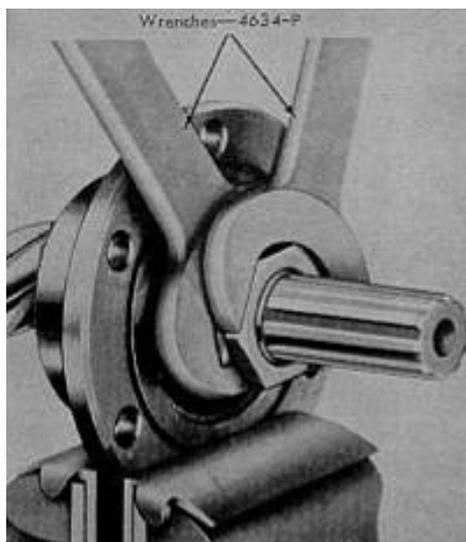
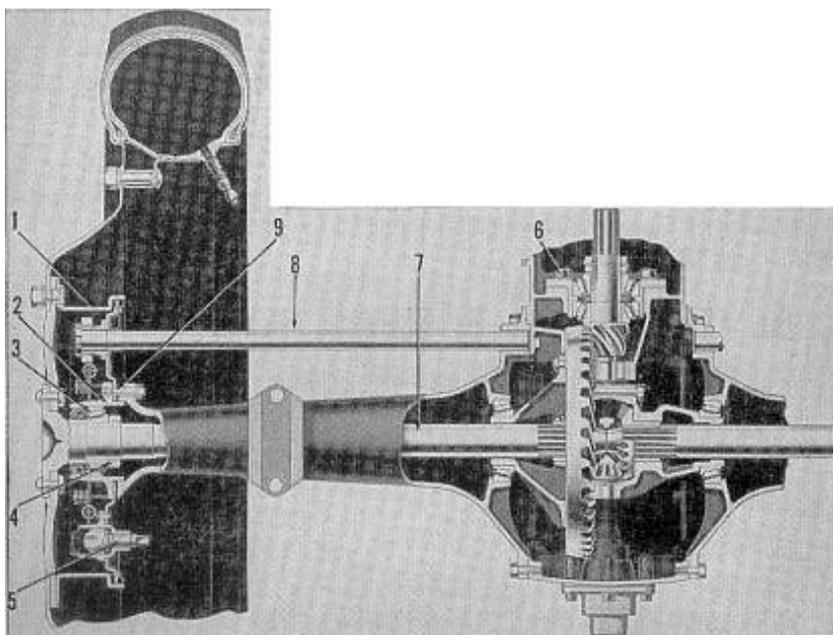

Fig. F066 - Adjusting bearings of main drive bevel pinion.
Fig. F067 - Rear axle and differential assembly as used on models 2N-9N. The 8N is similar except details of brakes and wheel axle shafts.
86. **BEVEL PINION.** To remove main drive bevel pinion, first separate rear axle center housing from transmission as outlined in paragraph 70A and remove hydraulic power lift and pump units. Unscrew six mounting cap screws (6-Fig. F067) and move pinion and bearing carrier out toward front, using a suitable puller. Disassemble pinion and bearing assembly and renew worn or damaged parts. Reassemble pinion and bearings and adjust bearings as shown in Fig. F066 until a torque of 12 to 16 inch pounds is required to turn pinion. After adjustment, bend tabs on lockwasher to secure shaft nuts. If rear pinion bearing is to be renewed, differential unit must be removed to provide necessary clearance.